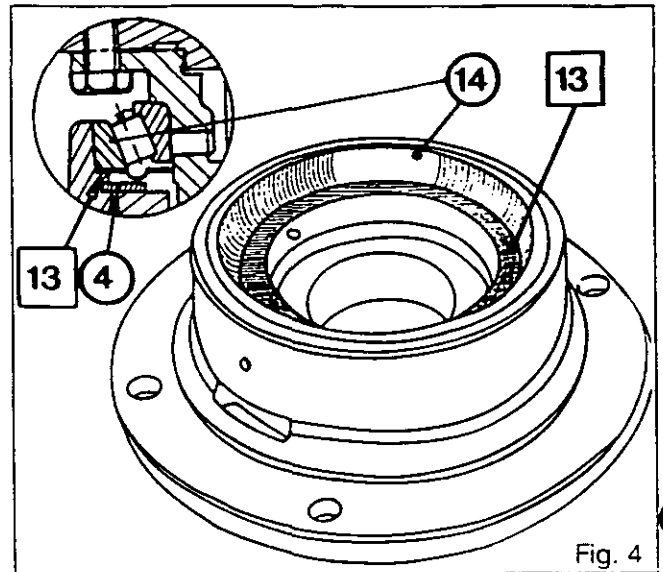

Fig. 4
14. Fit the circlip (4), the deflector [13] ensuring that it is fitted the right way round and the bearing cup (14) (Fig. 4).